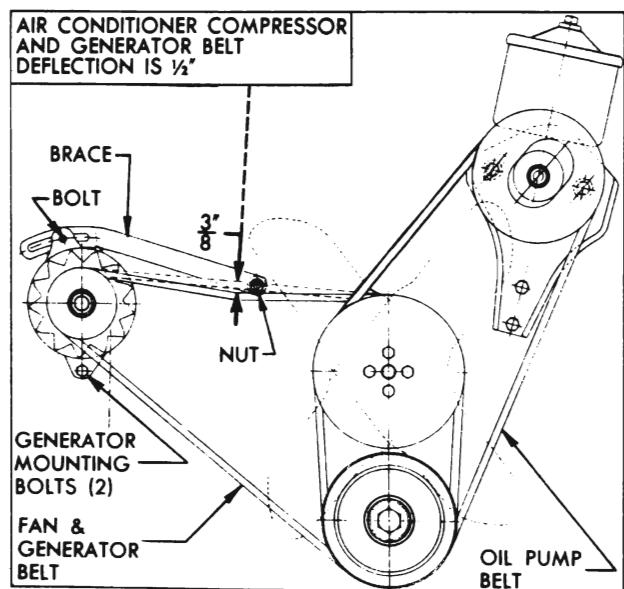

Figure 10-10—Fan Belt Adjustment
tension (fig. 10-10), and make certain that all generator mounting bracket and brace bolts are tight. A loose fan belt will permit belt slippage, resulting in rapid belt wear and low or erratic generator output. An excessively tight belt will cause rapid belt wear and rapid wear of generator and water pump bearings. **NOTE:** *If belt requires adjustment, first loosen belt so that generator pulley is free, then check pulley for tightness and check generator bearings for freeness of rotation and excessive side play. Tight or excessively worn bearings should be cleaned or replaced.*
4. If 30 amperes cannot be obtained at approximately 1100 RPM of engine check fan belt for proper tension (fig. 10-10). If fan belt is not slipping the generator does not have proper output. Remove generator for bench test (par. 10-24) and make necessary corrections before attempting any adjustment of generator regulator.
5. Before the engine is started, momentarily bridge between the "BAT" and "GEN" terminals of the generator regulator with a jumper wire or screwdriver. This allows a momentary surge of current from battery to generator, which correctly polarizes the generator with respect to the battery. Adjust fan belt as shown in figure 10-10.